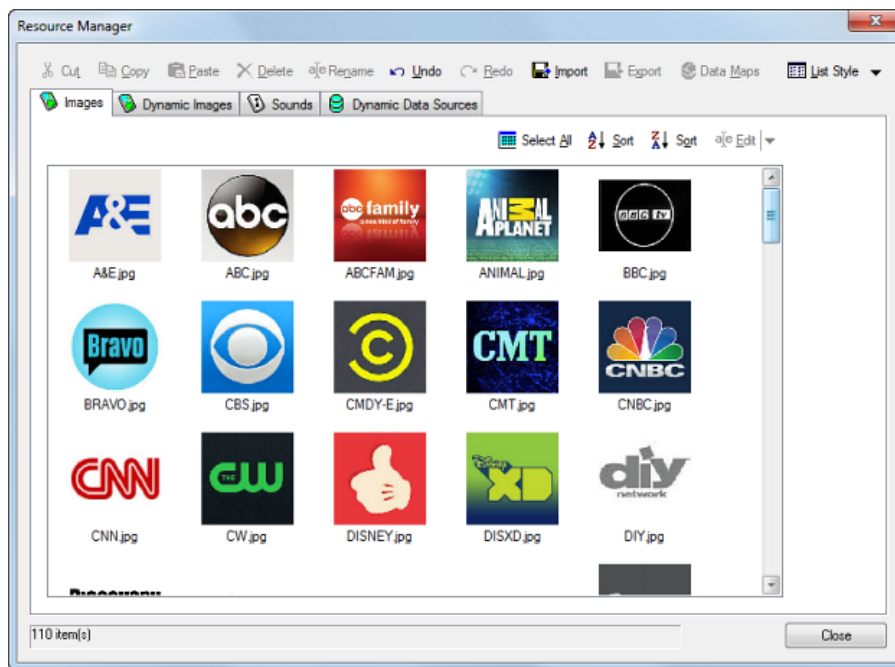

FIG. 147 Resource Manager Images tab - Channel images imported
3. Click **OK** to import the selected files and return to the Resource Manager (FIG. 147).